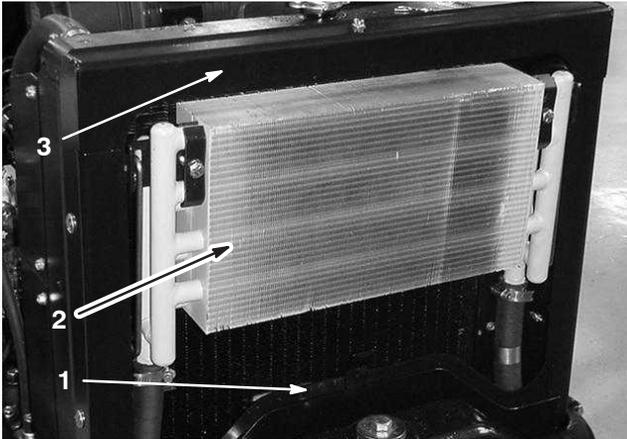

Figure 45
2. Remove the access panel (Fig. 45).